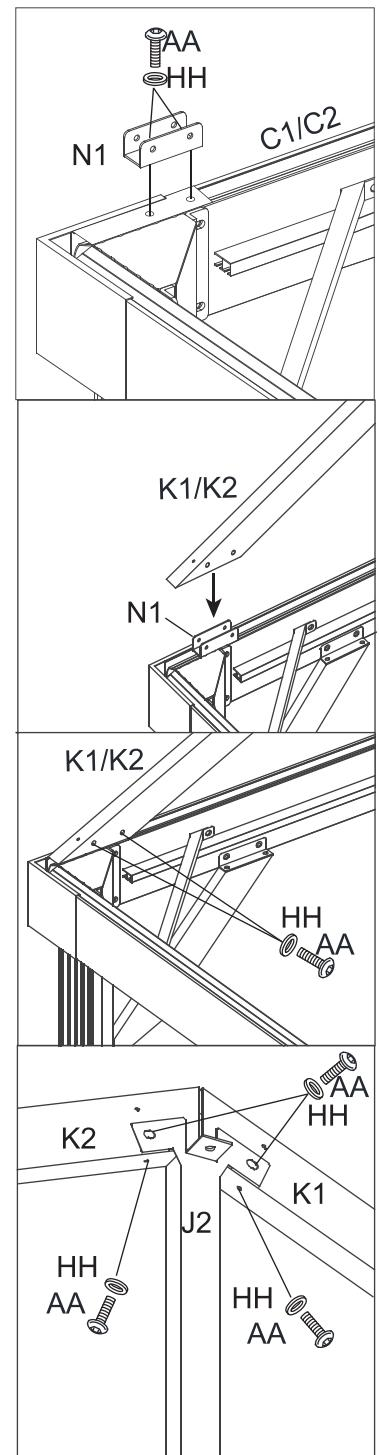

Figure 7.2
7.2 Connect the Connector (N1) and the Short Lintels (C1/C2) with Bolts (AA) and Washers (HH) , then connect the Bilateral Cant Beam (K1/K2) with the Connector (N1) and Vertical Brace (J2) , fix them with Bolts (AA) and Washers (HH) . See Figure 7.2.